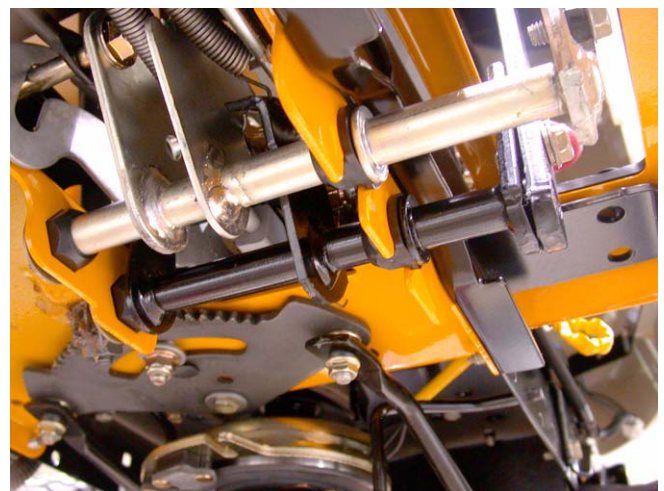

Figure 20.7
- 20.7. Clean any corrosion or dirt from the surfaces where the pedal shaft contacts the bushing, and slip the new bushings into place. See Figure 20.7.